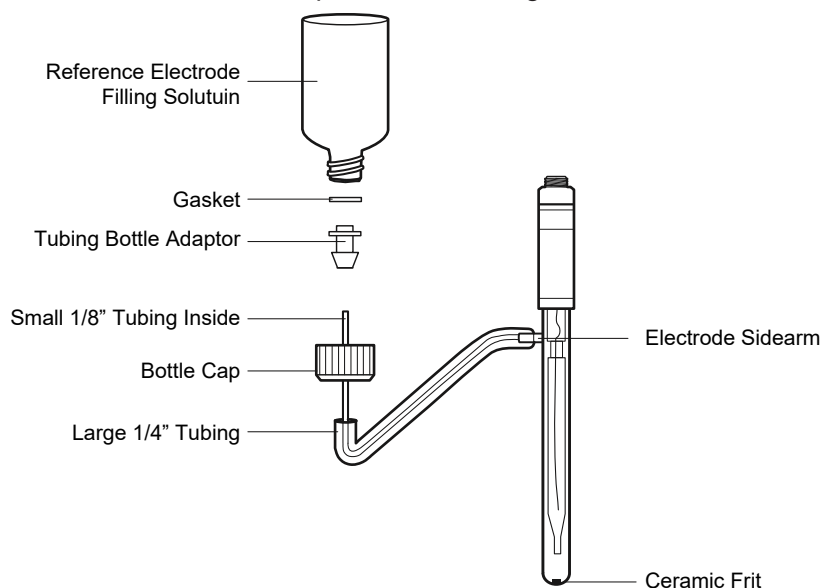

Figure 2.9 Reference Electrode with Filling Solution
4. While passing the 1/8 inch tubing into electrode sidearm, slide the 1/4 inch tubing over the sidearm. The outside tubing should extend 3/8 to 1/2 inches over sidearm. Refer to Figure 2.9.